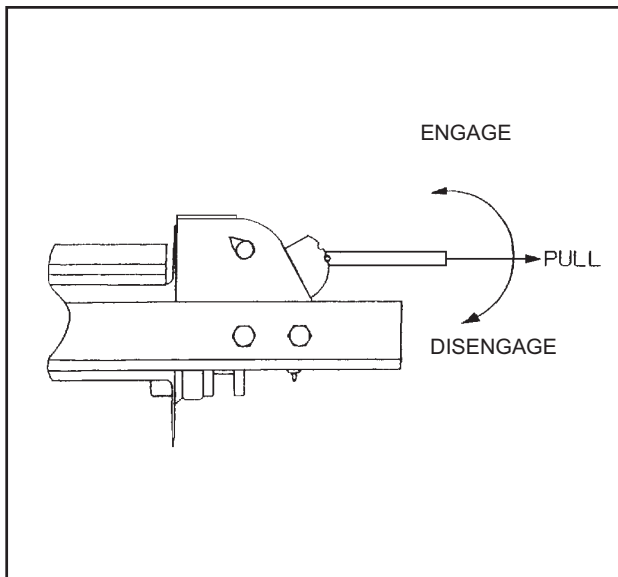

Figure 3-8 12,000# Winch Clutch
3-16.2 The **WINCH CLUTCH HANDLE** (See **Figure 3-8 and 3-9**) is located on the right or curb-side end of the winch assembly. The function of the **WINCH CLUTCH HANDLE** is to engage or disengage the winch, allowing it to respond to the **WINCH HYDRAULIC LEVER**. For trailers equipped with optional **PNEUMATIC WINCH CONTROL** (20,000 lb. and 30,000 lb. winches only), the control is a switch on the control panel (See **Figure 3-4**). If the semitrailer also has the optional winch air tensioner, it also is controlled by the same switch on the control panel. For the 20,000 lb. and 30,000 lb. winch, this switch controls both the clutch and the winch air tensioner simultaneously. For the 12,000 lb. winch, this switch controls only the air tensioner.
a. The **12,000 lb. WINCH CLUTCH HANDLE** has two positions: (See **Figure 3-8**)